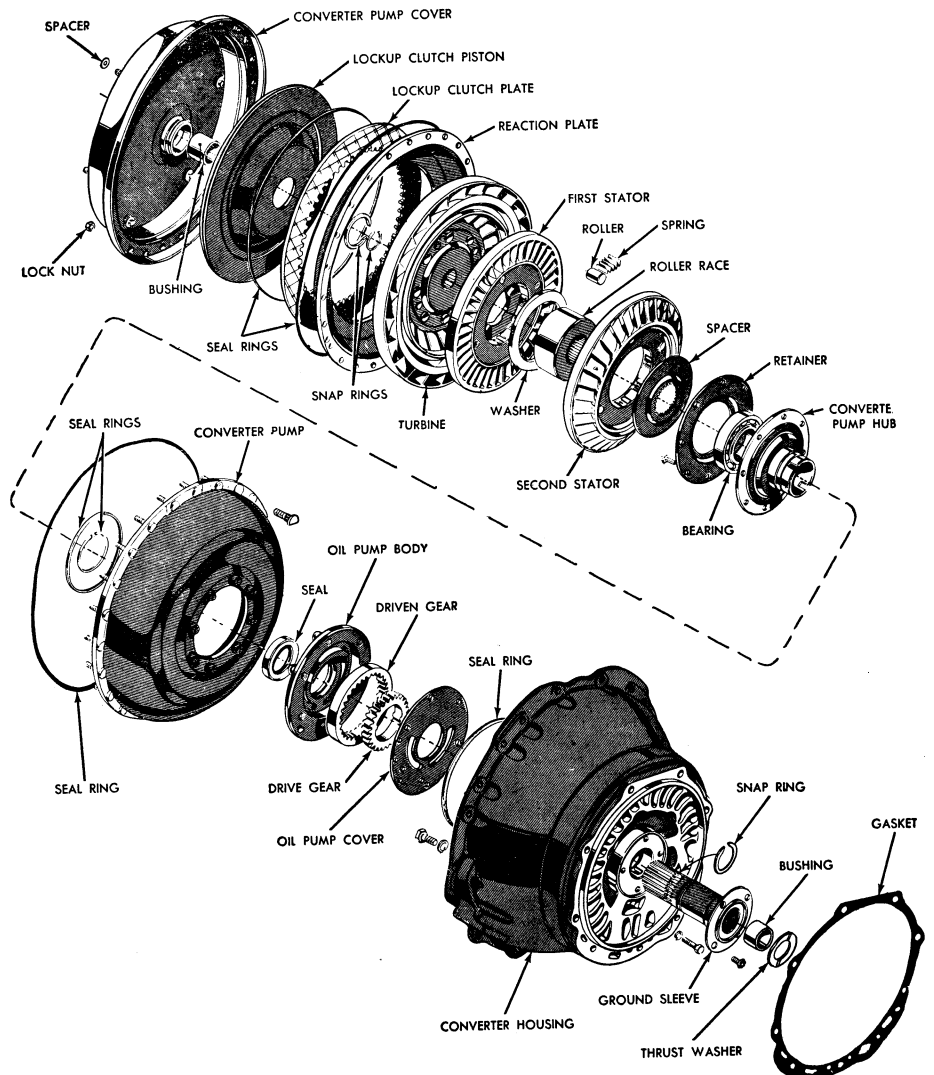

Fig. 21 Torque converter, lockup clutch and front pump
1. Remove lockup clutch reaction plate, Fig. 21, and lift out clutch plate. Tap edge of cover against wooden block, if necessary, to remove reaction plate.